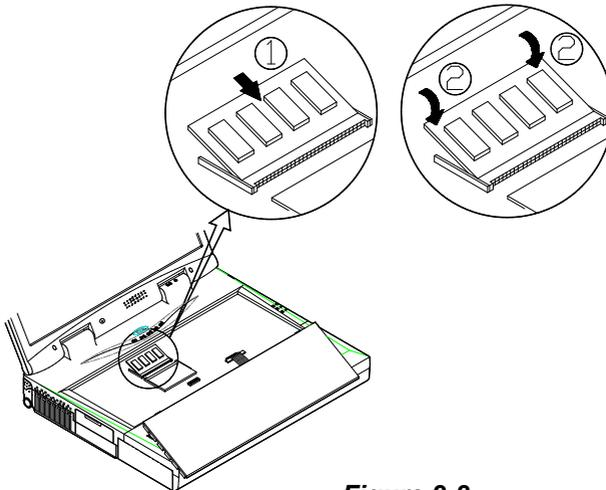

Figure 2-8
4. **Position the memory module at a slight angle (45°)** and fit its connectors into the socket firmly (Step 1 of Figure 2-8).
5. **Press two edges of the memory module (Step 2 of Figure 2-8) to make it locked into place.**